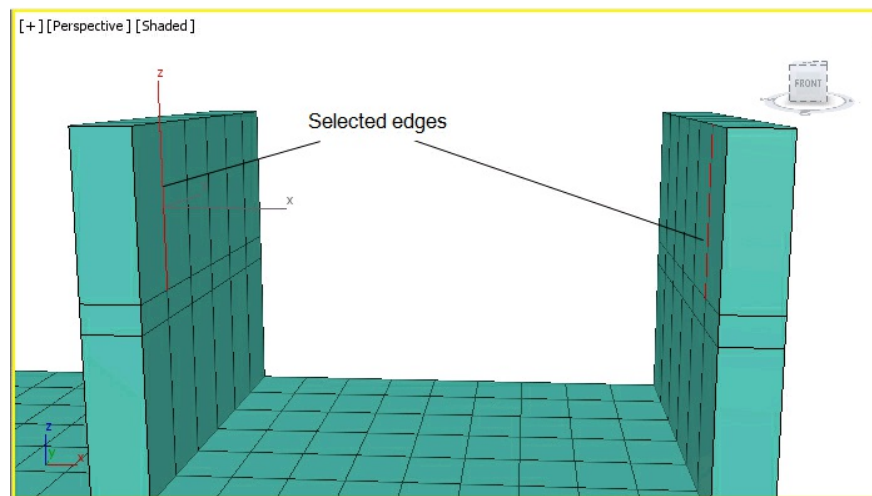

Figure 9-77 Selected edges from the upper portion of extruded part
7. Select two edges from the upper part of the extruded portion, as shown in Figure 9-77.